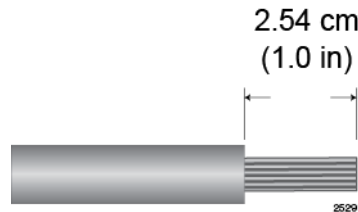

Figure 116. Stripping the solid or Stranded Grounding Wire
1. Prepare an adequate length of solid or stranded 10 AWG grounding wire by stripping it as shown in Figure 116.